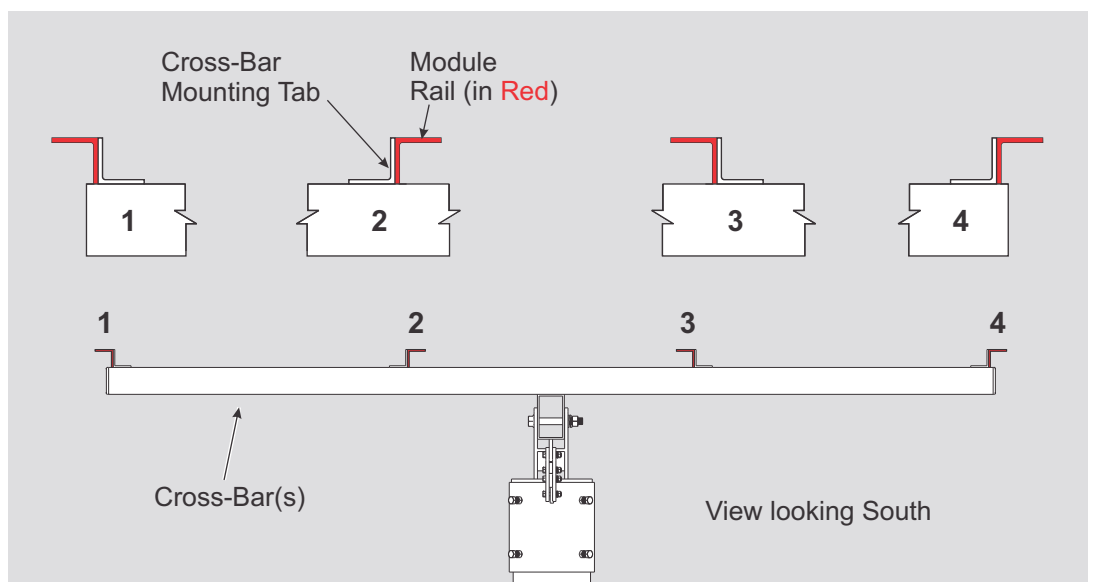
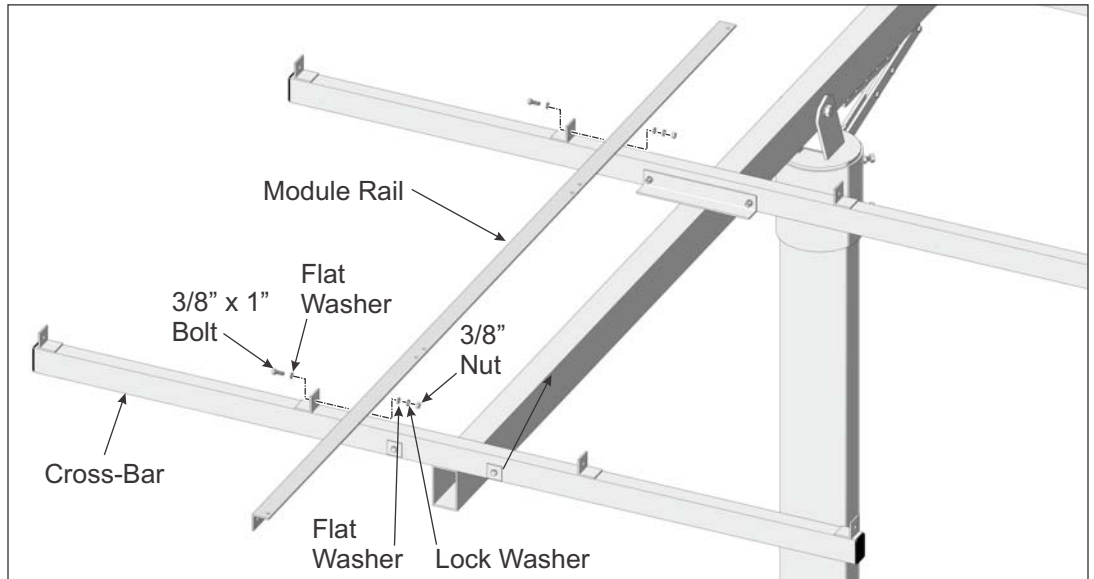

Figure 4-1: Orientation of Module Rails to Cross-Bars
Figure 4-2: Installing southern inboard Module Rail to Cross-Bars
There are four locations on the Cross-Bars where Module Rails are attached; at each of these locations two Rails are installed and butt jointed using Splice Plates. Splice Plates are positioned on the outside of the Module Rails (See Figure 4-1) and secured using 3/8" x 1" bolts and hardware. There are four Splice Plates to install.
Additionally, Module Rails are installed differently depending on where they are located on the Cross-Bars and the orientation of the mounting tabs of the Cross-Bars. Follow these instructions carefully for the correct orientation. (See Figure 4-2)
- A. Referring to Figure 4-1 for orientation of the Module Rails, position the first section of inboard Module Rail in the southern position on the Cross-Bars. Align the Module Rail mounting holes with the holes of the Cross-Bar mounting tabs and secure with 3/8" x 1" bolts and hardware. Finger-tighten for now. (See Figure 4-2)
Continue in this manner and install all remaining Module Rails (six more) while being mindful and following Figure 4-1 for proper orientation of the Rails to the Cross-Bar mounting tabs.